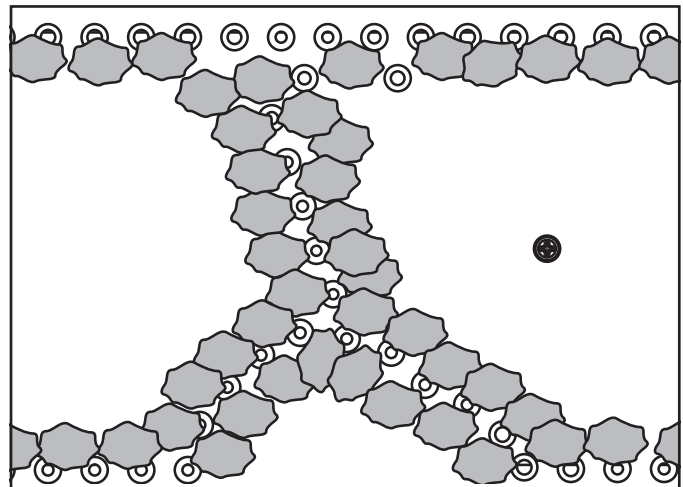

Figure 11.9 Embers Overlapping Burner Port Holes (LP & ULPG only).
- **LP & ULPG Only:** Using dime-size pieces of Glowing Embers®, overlap the burner ports as shown in Figure 11.9. The impingement created by the embers will help blend the fire.